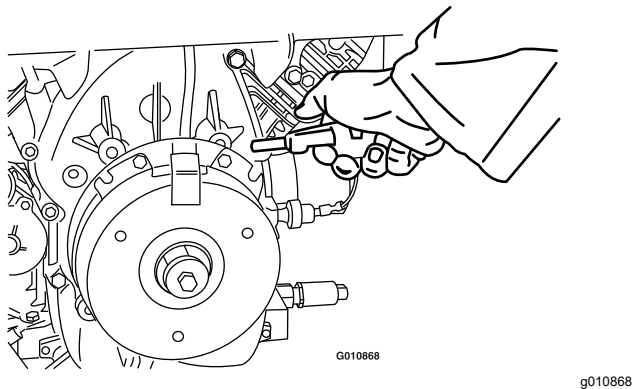

Figure 66
3. Using an air compressor, blow out any debris from under the brake pole and around the brake spacers (Figure 66).